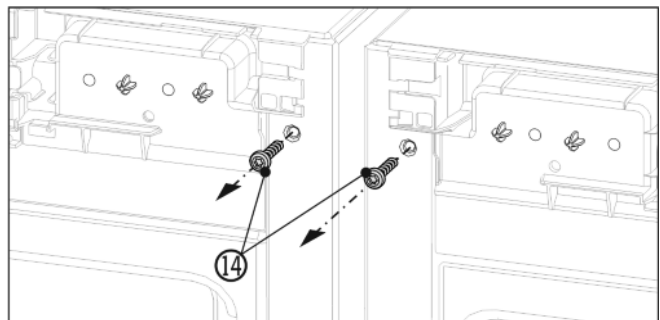

Fig. 6
- ▶ Before fitting the top bracket remove both earthing screws Fig. 6 (14).